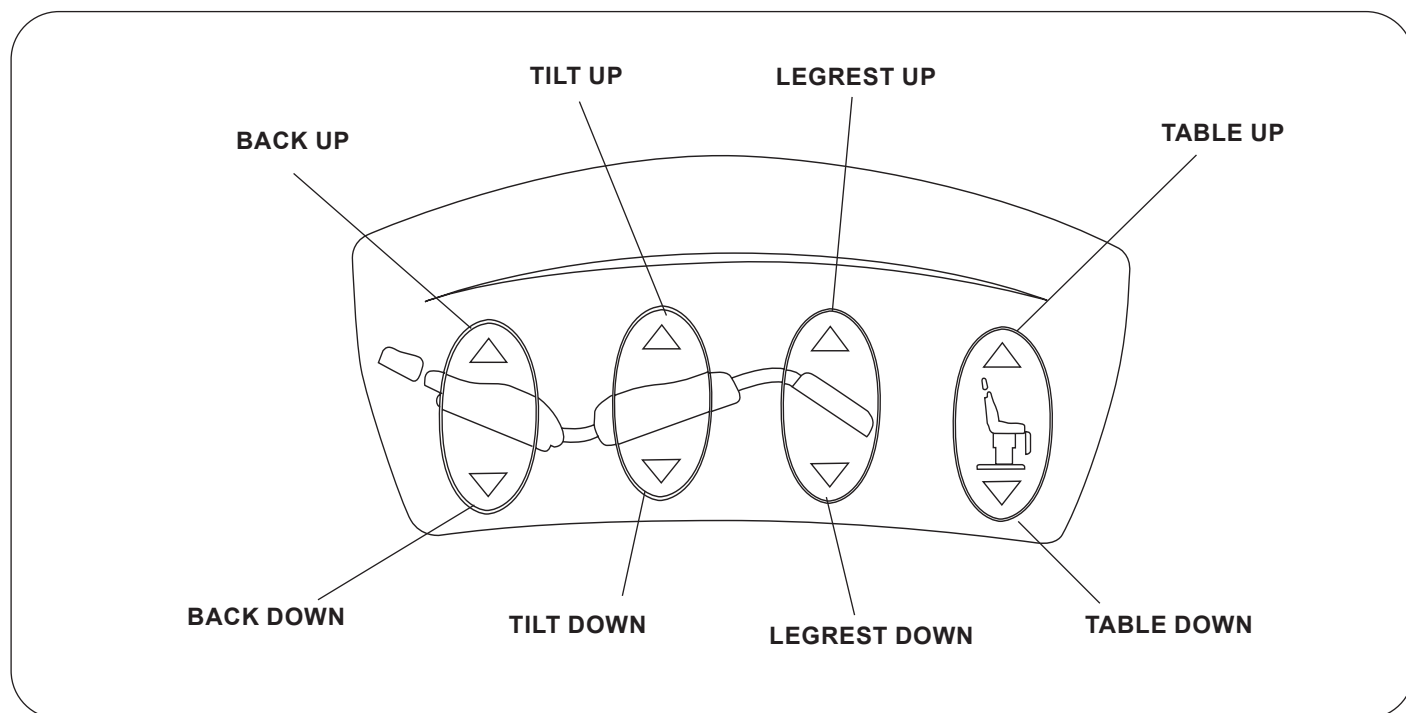

Figure 8. Foot Control
The model 7000 ASSIST Powered Procedure Table comes standard with a four pedal foot control (Figure 8). The table adjustments include height, seat tilt, backrest angle, and legrest angle.
1. To raise the table, depress and hold the Table Up pedal (Figure 8) until the desired height is achieved, then release the pedal.
1. To adjust the back from a chair (upright) position to a horizontal position, depress and hold the Back Down pedal (Figure 8) until the desired angle is achieved, then release the pedal.
1. To tilt the foot end of the table upward, depress and hold the Tilt Up pedal (Figure 8) until the desired angle is achieved, then release the pedal.